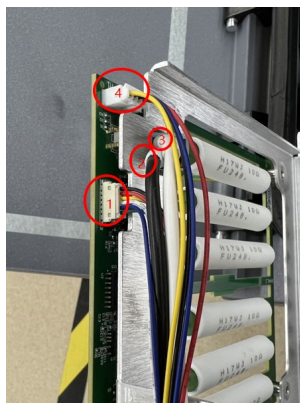

Figure 3-35 Disconnect the cable
- Disconnect the cables on the brake board as shown in Figure 3-35: